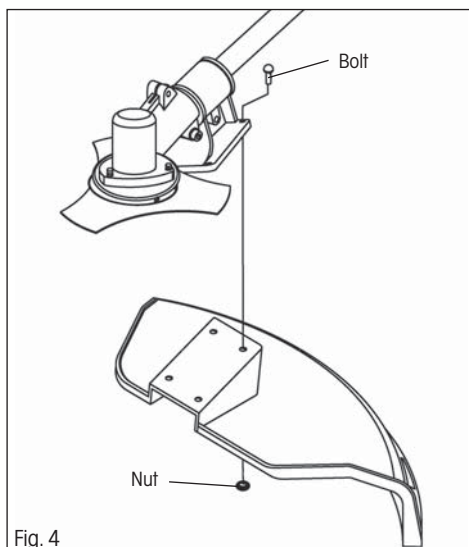

Fig. 4
- ✿ Install the protective guard on to the shaft using the supplied screws and nuts (see fig. 4)